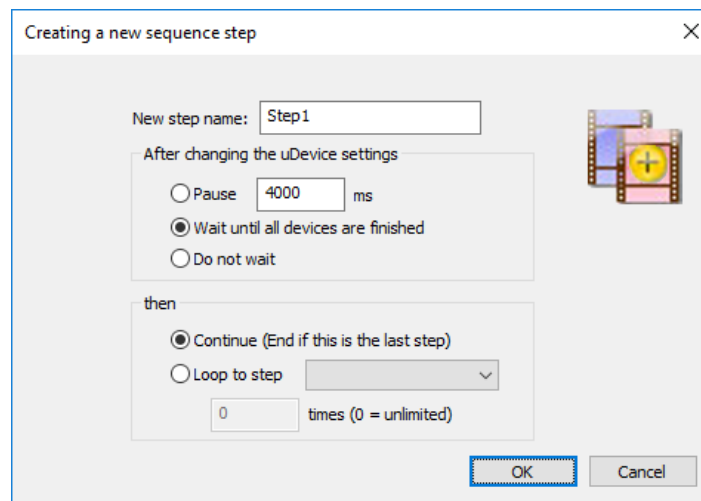

Figure 25. Creating a New Process Step Dialog Box.
4. Click the **Save as New Sequence Step** button (). The **Creating a New Sequence Step** dialog box will open (Figure 25).